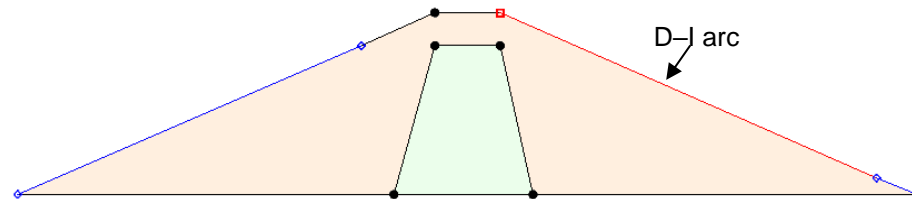

Figure 8 Exit-face boundary
1. Using the **Select Arcs**  tool, double-click on the D-I arc on the upper right (Figure 8) to bring up the *Attribute Table* dialog.
The arc will now be red, indicating it has an exit face boundary condition (Figure 8).